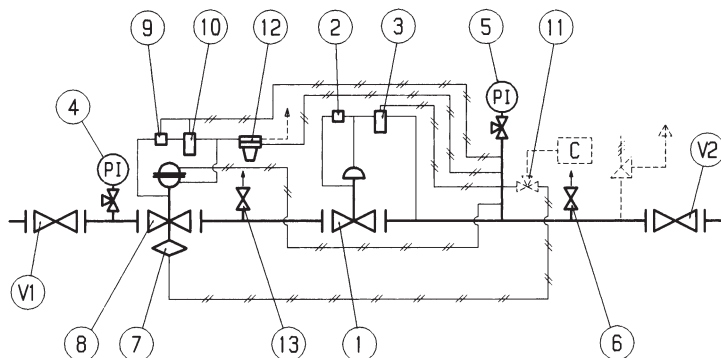

Fig. 21
**5.6 MESSA IN SERVIZIO REGOLATORE APERVAL PIÙ MONITOR IN LINEA REVAL 182 CON VALVOLA DI BLOCCO INCORPORATA VB/93 E VALVOLA ACCELERATRICE (FIG. 21)**
**5.6 COMMISSIONING THE REGULATOR APERVAL WITH REVAL 182 IN-LINE MONITOR IN LINE WITH VB/93 INCORPORATED SLAM-SHUT AND ACCELERATOR (FIG. 21)**
**5.6 INBETRIEBNAHME DES REGLERS APERVAL MIT IN SERIE GESCHALTETEM MONITORREGLER REVAL182 MIT INTEGRIERTEM SICHERHEITSABSPERRVENTIL (ABB. 21)**
**5.6 MISE EN SERVICE DU DETENDEUR APERVAL ET MONITOR EN LIGNE REVAL 182, AVEC VANNE DE SECURITE INCORPOREE (FIG. 21)**
**5.6 PUESTA EN SERVICIO DEL REGULADOR APERVAL CON MONITOR EN LINEA REVAL 182 VÁLVULA DE SEGURIDAD INCORPORADA VB/93 Y VÁLVULA ACELERADORA (FIG. 21)**
**5.6 ACTIVAÇÃO DO REGULADOR APERVAL COM MONITOR EM LINHA REVAL 182 COM VÁLVULA DE BLOQUEIO INCORPORADA VB/93 E VÁLVULA ACELERADRA (FIG. 21)**